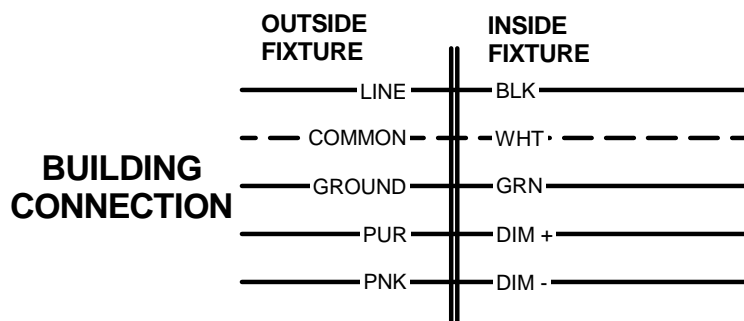

FIGURE 5
- Connect service leads to fixture power leads according to local and National Electric Codes. (See FIG.5)